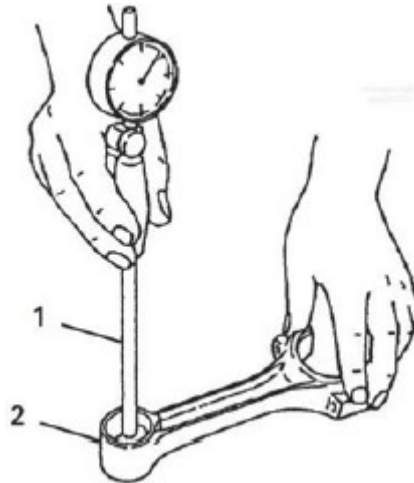

Figure 112.
1. Measure the piston pin bushing bore using a bore gauge (Figure 112, Item 1). Replace the bushing if not within specifications. If the bushing has been removed, measure the inside diameter of the connecting rod small end (Figure 112, Item 2). See *Connecting Rod Mechanical Specifications Chart*.